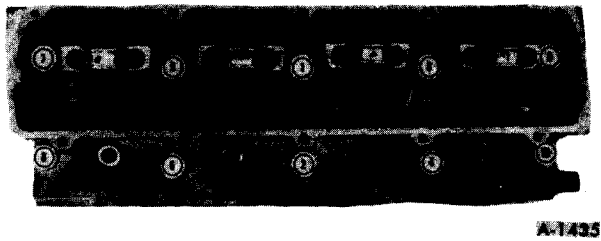

Figure 28—Cylinder Head Torque Sequence
NOTE: If a clearance problem is encountered for number 7 or 8 cylinder head bolts (figure 28) or push rods, pull these out far enough to clear the block, secure with rubberbands, and remove or install with the cylinder heads.
2. Install cylinder head and torque bolts to 100 ft. lbs. in sequence as shown in figure 28. Then retorquer in sequence to 130 ft. lbs.